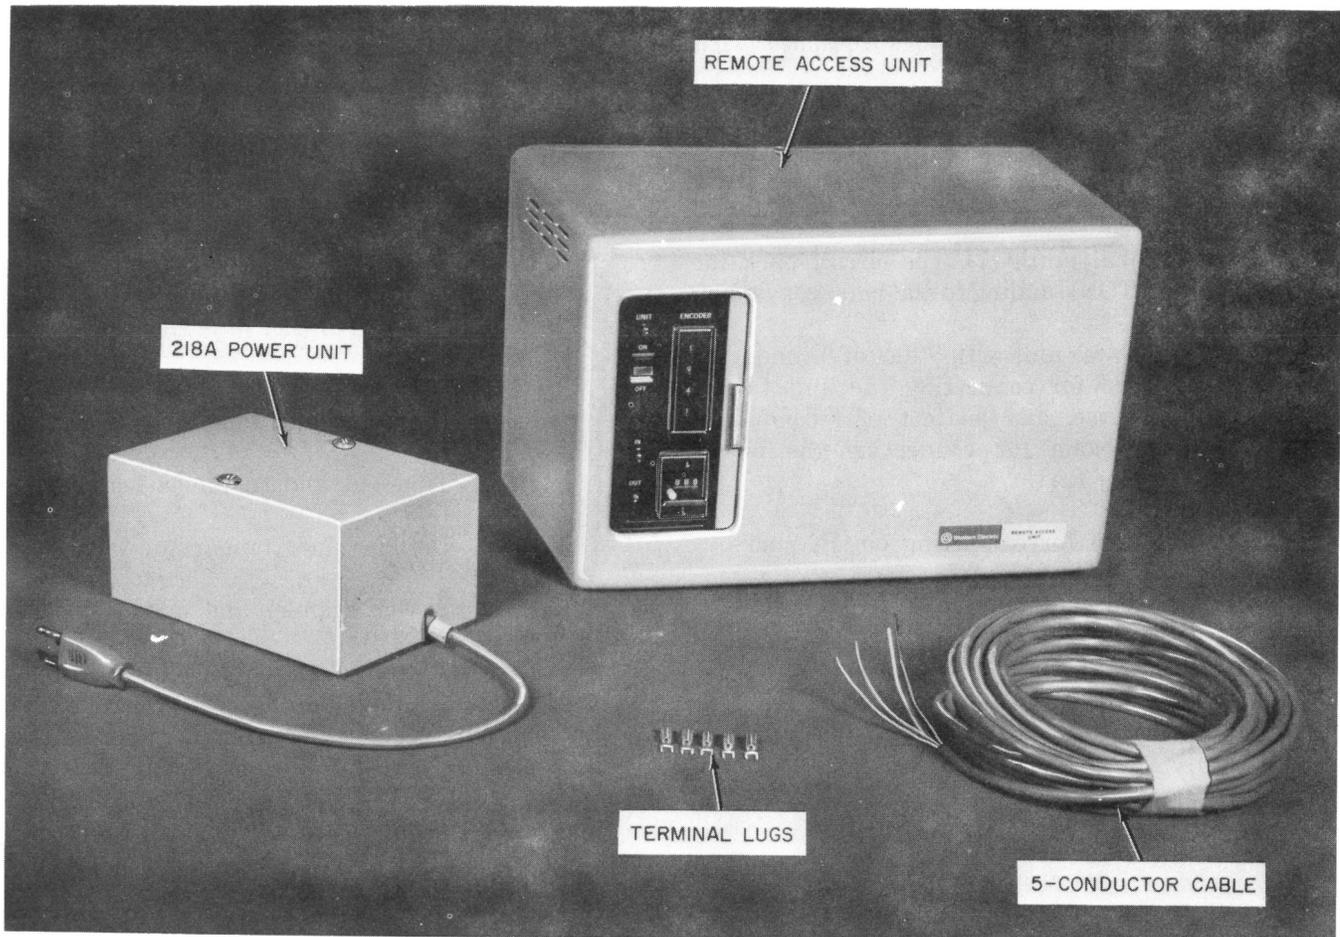

Fig. 6—Remote Access Unit—218A Power Unit—5-Conductor Cable and Terminal Lugs
3.02 Fig. 6 shows the RAU, the 218A power units, and the cable and terminal lugs for connecting the power unit to the RAU.